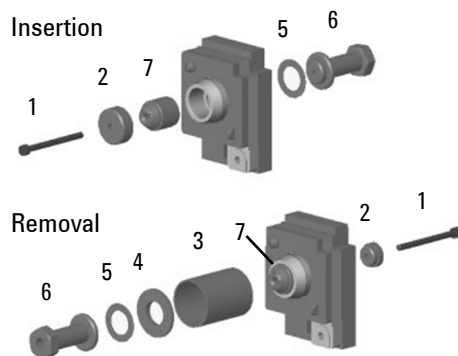

Figure 27. Electrode replacement (right hand electrode shown) Zeeman instrument
- 7** Pass the drawbolt through electrode on the right (from the outside of the furnace). Refer to Figure 27.
- 9 Place the stainless steel collar, then the PTFE washer and then the draw nut assembly on the draw bolt (refer to Figure 27). The electrode pressure plate component of the tool is not used for the removal process.